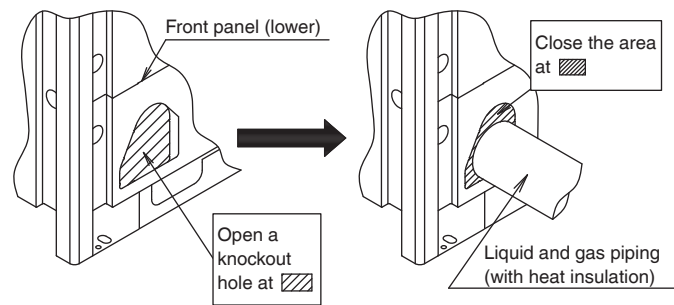

Fig. 31
- Open a knockout hole in the piping outlet cover and install, then close the piping outlet with sealing material (field supply) after test operation as a measure against invasion of small animals. (refer to Fig. 31)